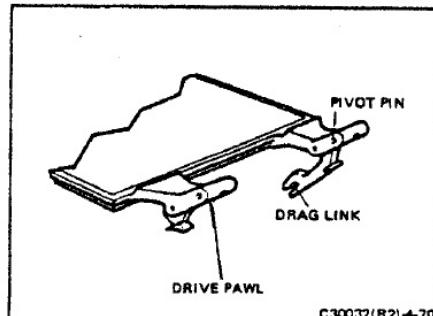

FIGURE 4-70 DRAG LINK & DRIVE PAWL
9. At this point, the drag link may be replaced if needed. Do this as follows, referring to Figure 4-70:
10. To replace the drive pawl (see Figure 4-70) and its spring, proceed as follows: